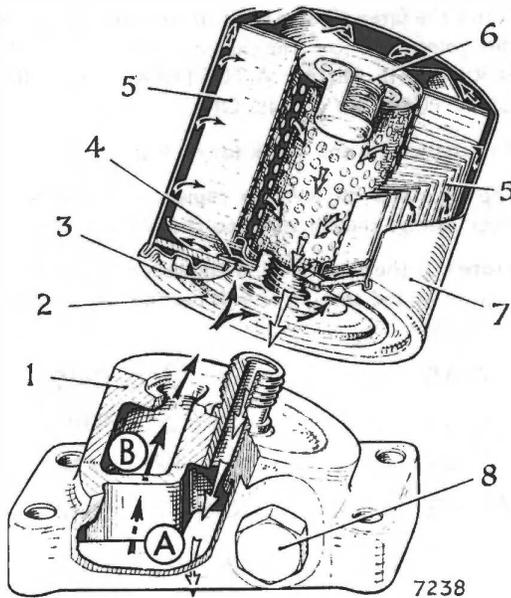

Fig. 52. Throw away type full flow filter—internal construction
FULL FLOW OIL FILTER—Throw away type (See Fig. 52)
Oil from the engine oil pump enters compartment "B" in the filter adaptor casting (1) and passes through eight port holes into the filter body. All oil entering the filter passes through the filter cartridge from the outside to the centre as shown in Fig. 52 and thence through the screwed spigot to compartment "A" in the adaptor casting. From here it enters the engine main oil gallery.
A by-pass valve (6) is fitted inside the throw away filter unit and forms part of this assembly as shown in Fig. 52.
Changing throw away filter unit. (See Fig. 52)